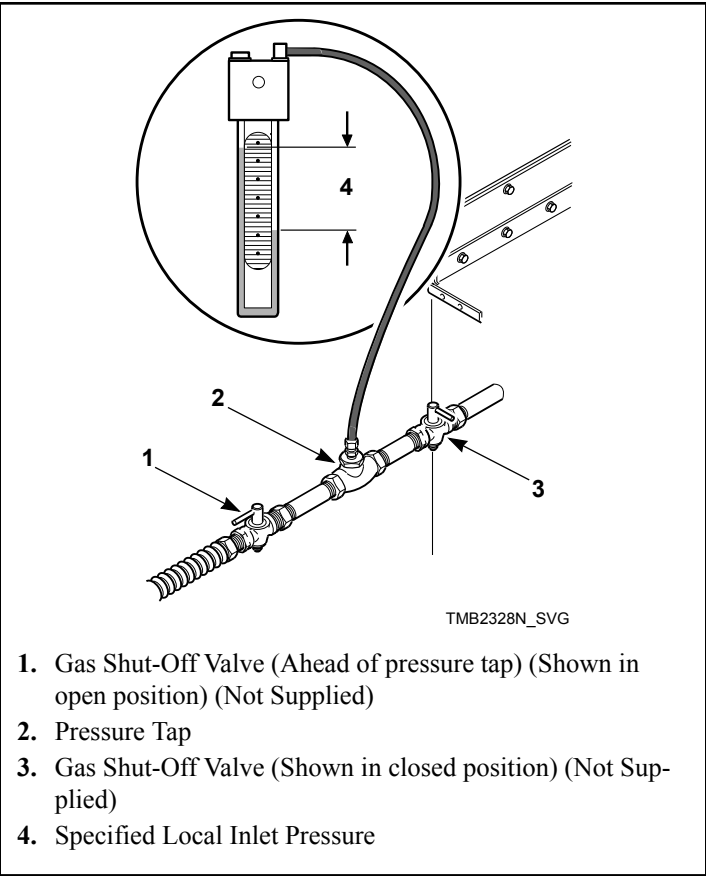

Figure 7
1. Disconnect electrical power from tumble dryer. Close gas shut-off valve to tumble dryer. Refer to *Figure 7*.